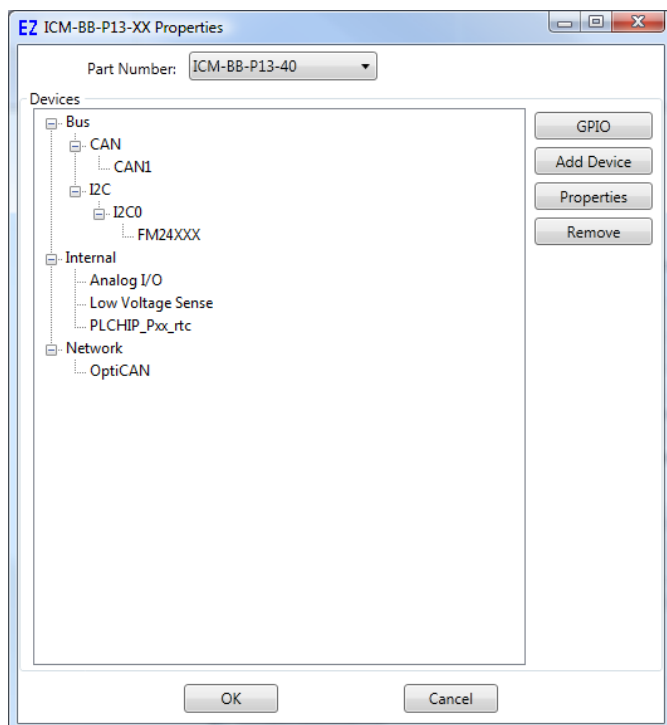

Figure 2-5 - ICM-BB-P13-XX Properties
2. Click the **PROPERTIES** button to the right side of the window. The ICM-BB-P13-XX Properties Window will open. Refer to Figure 2-5.